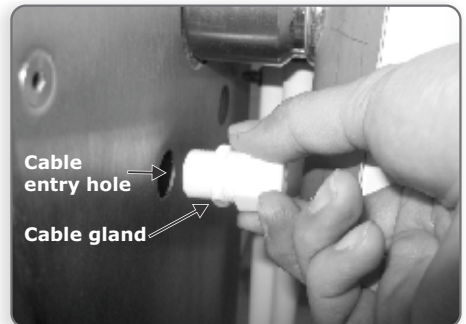

FIGURE 22
2. Fit the cable gland (supplied) into the opening as illustrated in Figure 22.